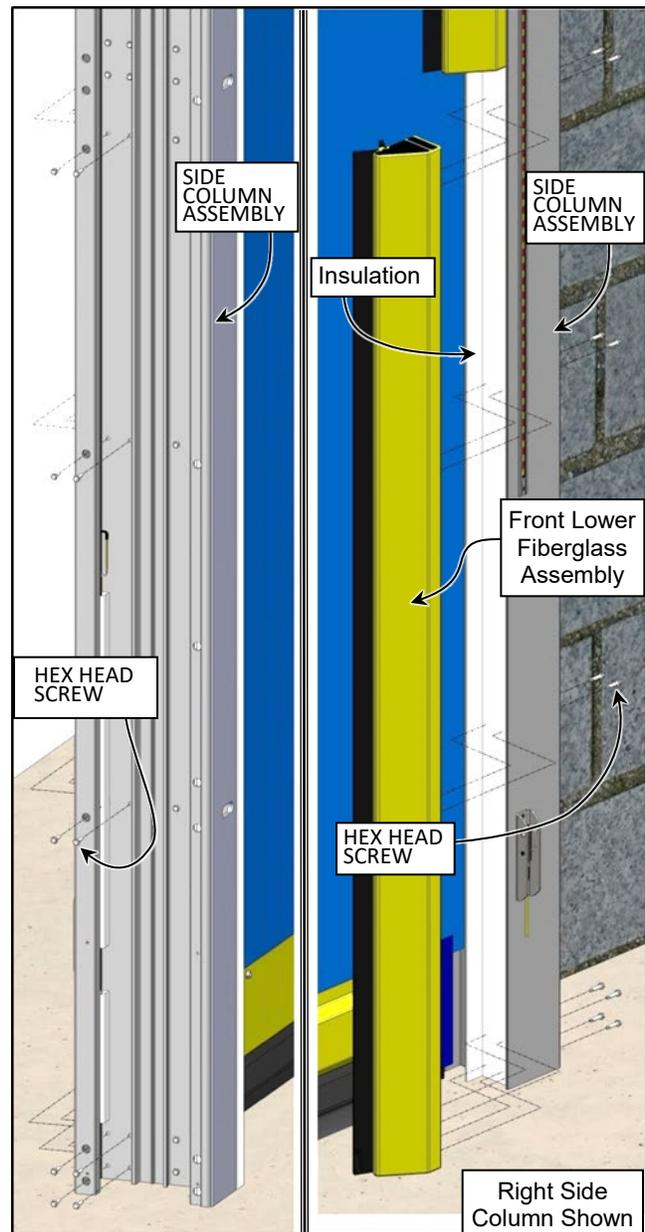

Figure 58
3. Remove the self drilling hex head tek screws securing the front fiberglass seal assembly to the side column. Do not strip the threads cut into the assembly. (See Figure 58)